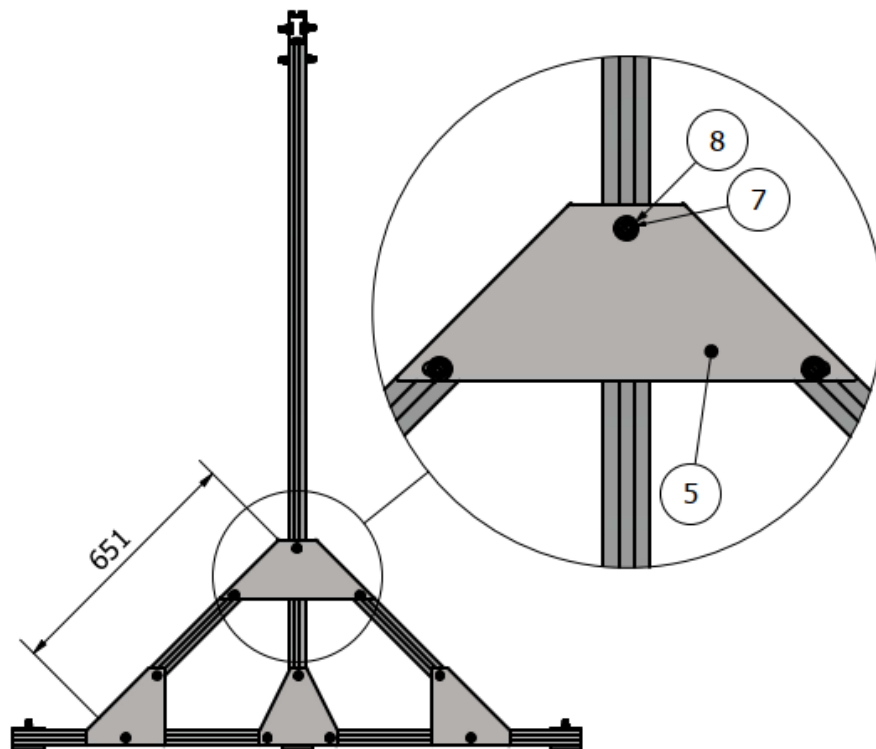

FIG. 7 Bolting the struts to the columns
7. Screw the struts **1.5** to the vertical columns with plate **5** as shown in Figure 7.